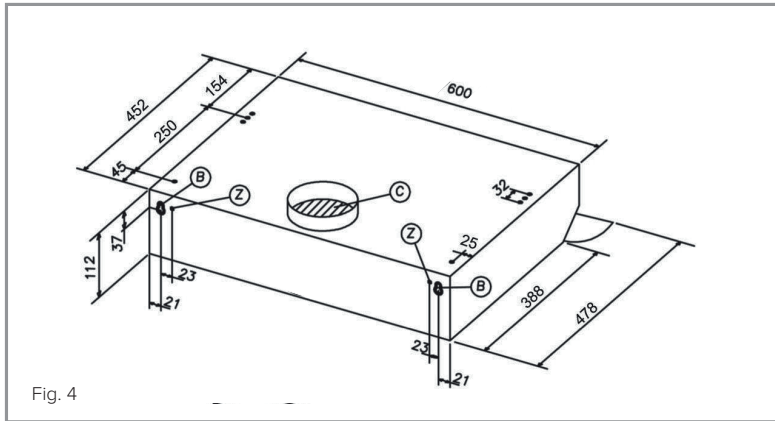

Fig. 4
2. Drill four holes as shown as “B” and “Z” in Fig. 4.
For extraction mode, set the lever “L” (Fig. 5) to position “F”. The extracted air is then routed through the outlet “C” (Fig. 4).
For recirculation mode, set the lever “L” (Fig. 5) to position “A”. Then, fit the outlet cover (pictured below) to the outlet marked ‘C’ in fig. 4. Secure this cover in place with the two screws provided.